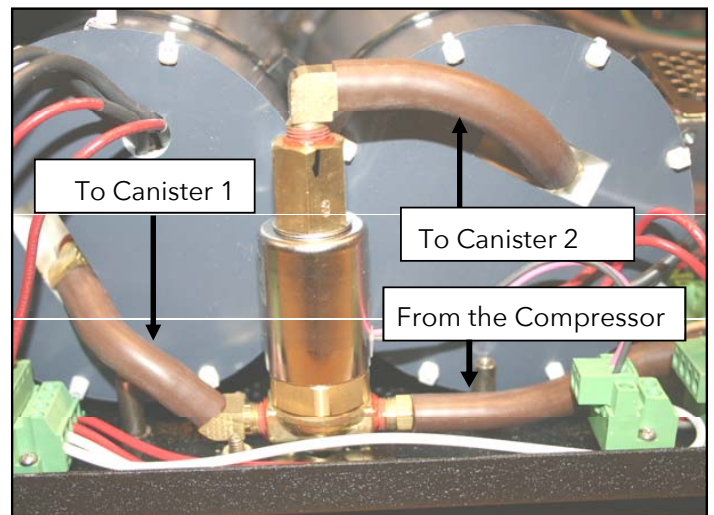

Figure 4. THE INLET SOLENOID MODULE AIR HOSE CONNECTIONS.
9. Reconnect the three air hoses to the corresponding fittings on the new module from which they were removed from the original module in step 6 of this section. Refer to Figure 4. The top hose runs to Canister 2. The lower left hose runs to Canister 1. The lower right hose runs from the compressor. Make sure each hose fits tightly onto the fitting.